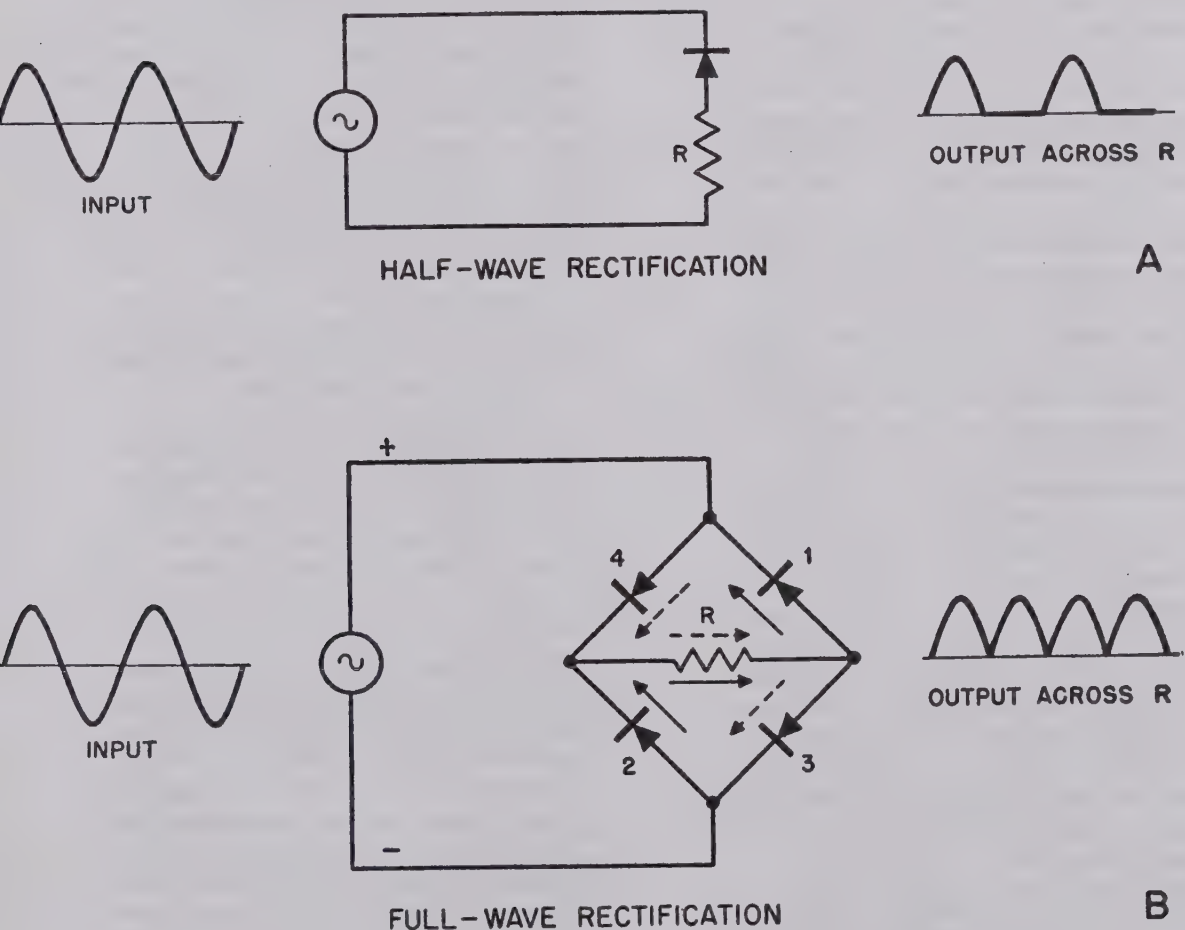

Figure 25. Half-wave and full-wave rectification.
- (1) **Unidirectional conduction.** The resistance to the current flow from the copper to the copper-oxide is very low compared with the resistance in the reverse direction. Because of this, the current flow is said to be unidirectional and this device can be used as a rectifier.
- (2) *Half-wave rectification.* When ac is applied to a rectifier in series with a resistor (A, fig. 25), current passes through the rectifier from the arrow-head to the flat side, but not in the opposite direction. The current through the resistor is not reversing its direction and is no longer ac, but pulsating dc. In half-wave rectification, current flows through the resistor during one alternation of each cycle, but not during the other.
- (3) *Full-wave rectification.* Current can be made to flow through the resistor in the same direction during both halves of the a-c cycle by using the bridge rectifier circuit shown in B of
figure 25. When the positive alternation is applied to rectifier 1, current flows from the generator through rectifier 2, resistor R from left to right, rectifier 1, and back through the generator. On the next alternation, the polarity of the generator reverses. Current then flows from the generator through rectifier 4, resistor R from left to right, rectifier 3, and back through the generator. The current flows through the resistor in the same direction on both alternations. The ac from the generator becomes pulsating dc—pulsating because the current is not steady in value and dc since the
- (1) It is possible to measure ac by substituting a d-c movement for either resistor in figure 25. The ac to be measured is changed to pulsating dc by rectifier action, and then passes through the meter coil, allowing the pointer to read the average current. The moving coil cannot follow the instantaneous changes of pulsating dc because of its inertia.
- (2) The average current through the coil during full-wave rectification differs from that produced by half-wave rectification. In full-wave rectification, the average current is .637 of the peak value, since both halves of the a-c wave are being used. The pointer, therefore, takes a position corresponding to .637 of the peak value of the current flowing through the meter. The scale, however, is calibrated to read in rms values, or .707 of the peak current being measured.
- (3) In half-wave rectification, current flows through the meter during one alternation but not on the other. Because of its inertia, the coil cannot follow all of the instantaneous changes of current over the *whole cycle*. The average current for one alternation is .637 of the peak value, but for the next alternation it is 0. Therefore, the average current for the whole cycle is the sum of both alternations divided by two.
- (4) The average current for the whole cycle is (.637 minus 0)/2, or .318 of the peak value. The needle takes a position representing .318 of the peak value of current flowing through it. This point, however, is calibrated at .707 of the peak value, so that the meter reads the rms value of the ac being measured.